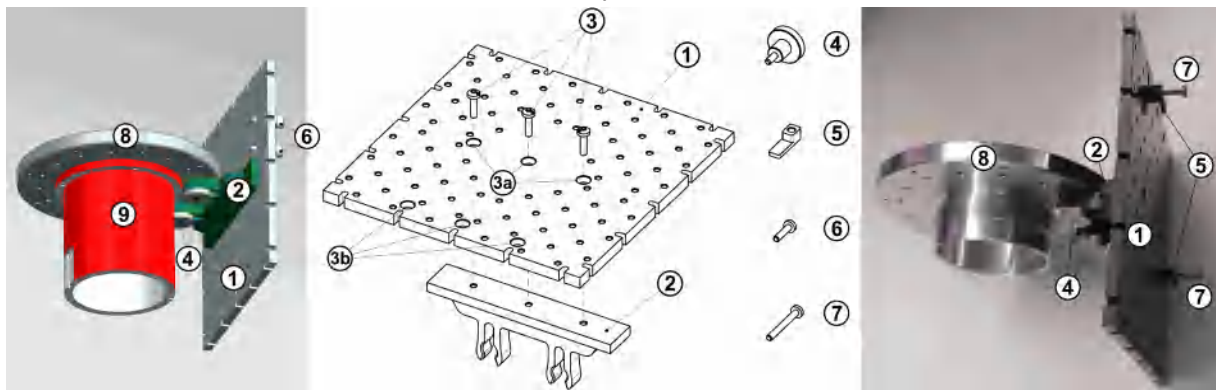

Figure 7-8: Holder set for carrying a printed circuit board (PCB) in addition to a DUT
- An **expert user** has fixed the PCB on the PCB holder by clamping claws and screws (labeled 5 to 7 in Figure 7-8).
- An **expert user** has fixed the DUT holder's metal base plate (8) on the turntable (9).
An **expert user** can assemble the PCB holder set using the centered (3a) or lateral (3b) assembly holes, as labeled in Figure 7-8.